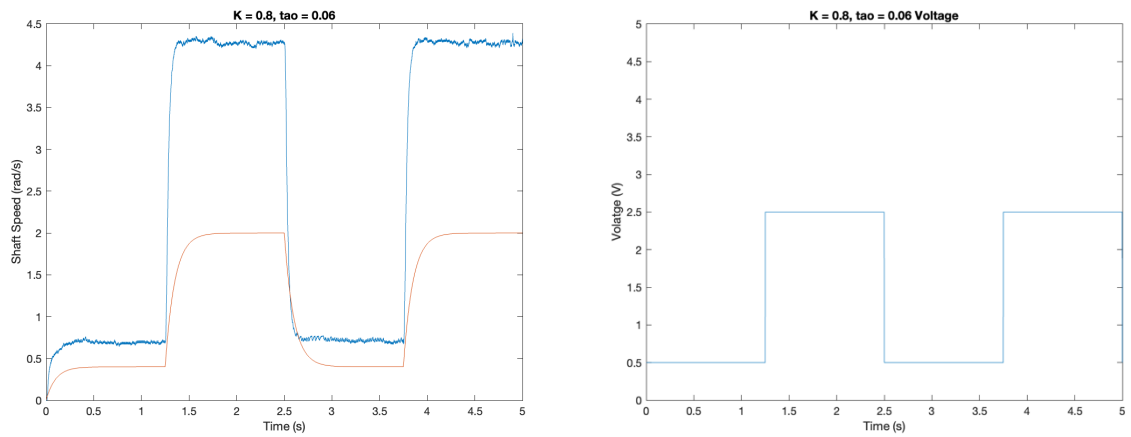

Figure 3: Model Validation with $K = 0.8$, $\tau = 0.06$
Looking at Figure 3, decreasing the gain (K) from 1.0 to 0.8 decreased the amplitude of the output by nearly 0.5 rad/s, lowering the time constant lessened the curve towards the steady state signaling that the system reacted to how it should.